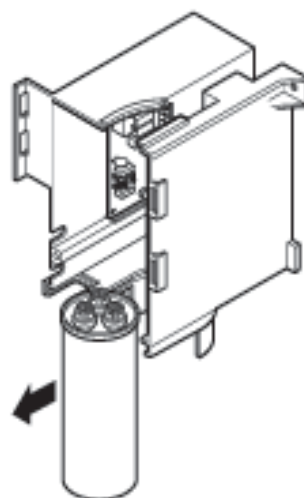

Figure 13
6. Pull the power cord. (See Fig. 13)